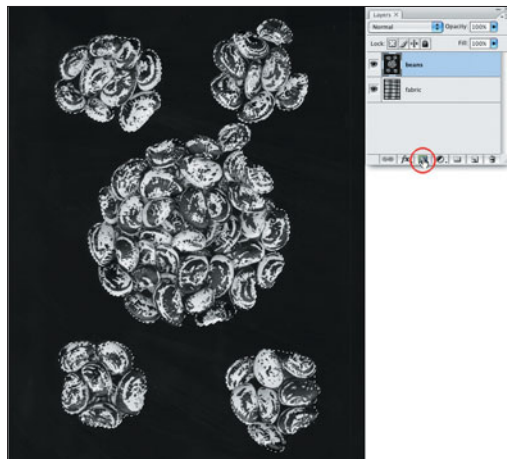

Figure 7.71 With the beans layer highlighted, I click the Add Layer Mask button.
8. Fine-tune the blend of the image layers (see Figures 7.71 to 7.75).